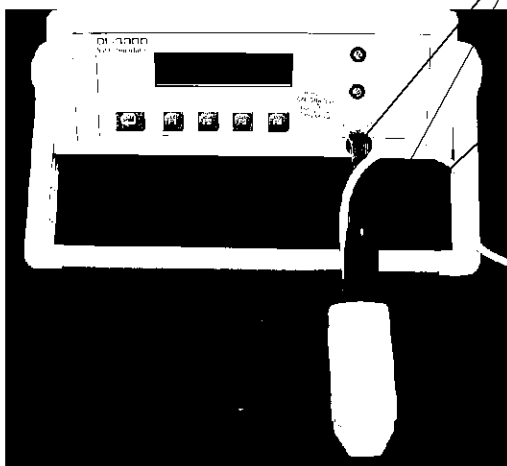

Fig 1.2a
7. Situate the clip onto the DL3000 Dummy finger, the LED must be to the underneath (Fig 1.2a & b)